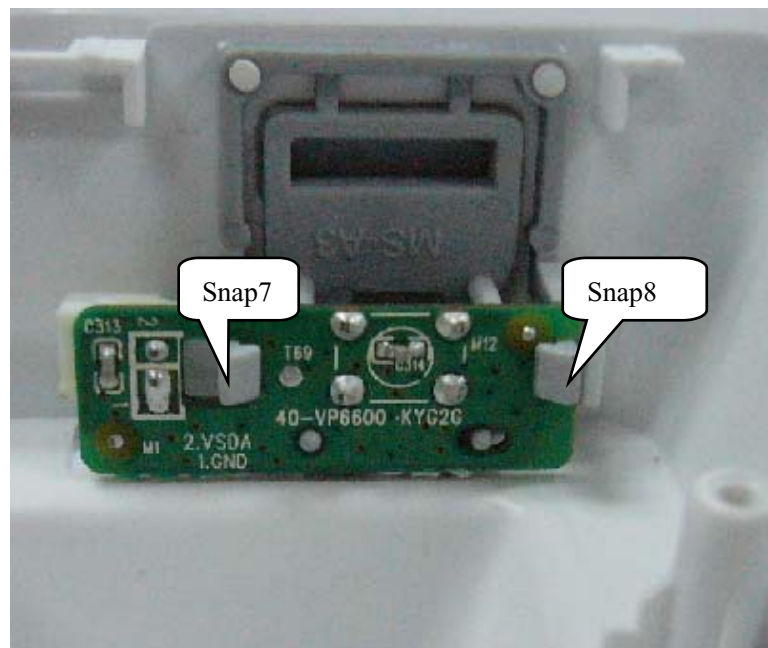

Figure 12
Step9: Dismantling Open Door Board. Release the 2 snaps around the board. (Figure 12)